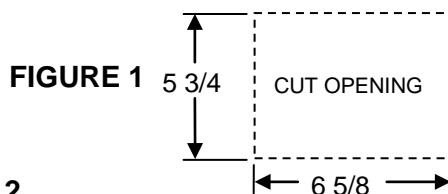

FIGURE 1
2. Cut a 5 3/4 X 6 5/8 opening through the wall in the desired location. FIGURE 1